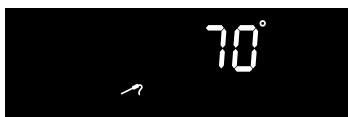

Fig. 2
4. When the probe is detected, a tone will sound, the icon will illuminate and the current probe temperature will appear in the display (Fig. 2). Close the oven door.